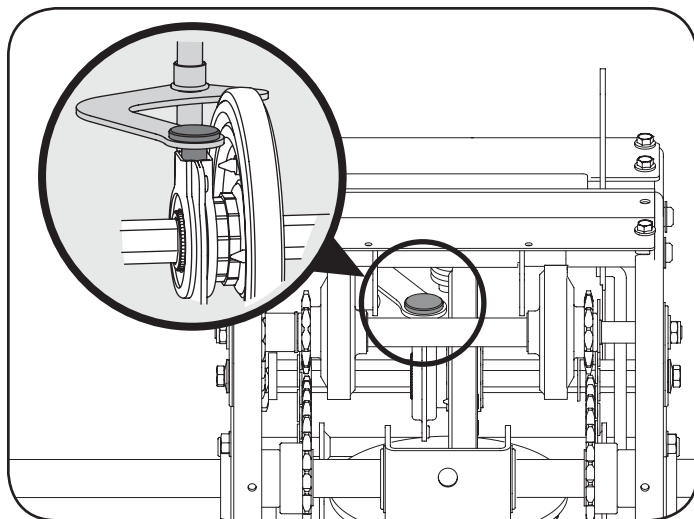

Figure 33
- Insert the pin from the shift arm assembly into the friction wheel assembly and hold assembly in position. Refer to Figure 33.